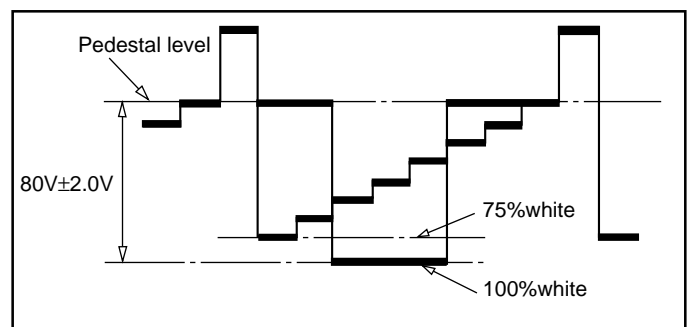

Fig. 3-2
2. Using the volume keys on the jig remote controller, adjust the voltage between pedestal level and 100% white to  $80V \pm 2.0V$  as shown in the Fig. 3-2.